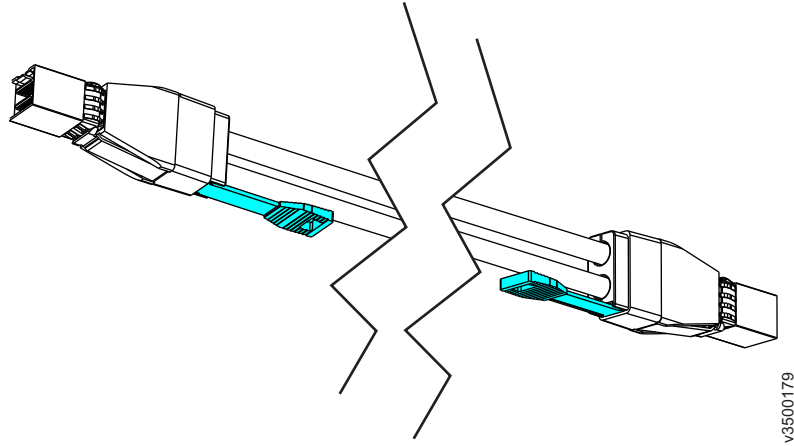

Figure 23. Mini SAS HD to Mini SAS HD cable
- Mini SAS HD to Mini SAS HD (Figure 23)